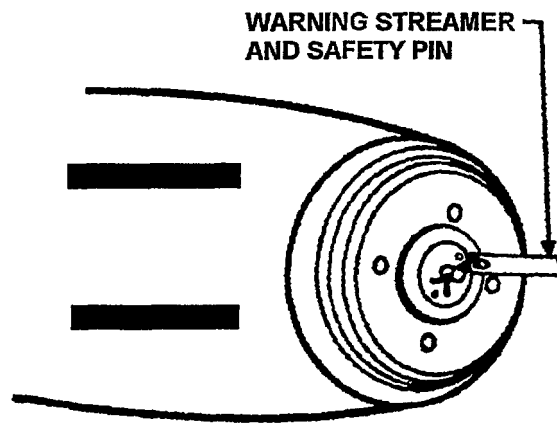

Figure 4-13A. Safety Pin in TDD
- If available, remove warning streamer from arming accessory kit. Insert warning streamer safety pin or Arming Wire Mk 9 remnant in vacant hole in TDD (Figure 4-13A).
- (1) Let the TDD arming cable relax in your hand (no twists on the cable).
- (2) While looking at the end of cable, twist the TDD safety pin leg one full 360-degree turn clockwise. Install the safety pin up through the vacant TDD pop-out pin hole, and close safety clip. When the safety pin is released, the arming cable tension should position the safety pin against the center of the TDD. If it does not, remove the safety pin and twist the arming cable another 360-degree turn clockwise; repeat until the released safety pin positions itself against the TDD.
- p. Hitch Pin Installation: Insert the pin up through the vacant TDD pop-out pin hole (Figure 4-13A).